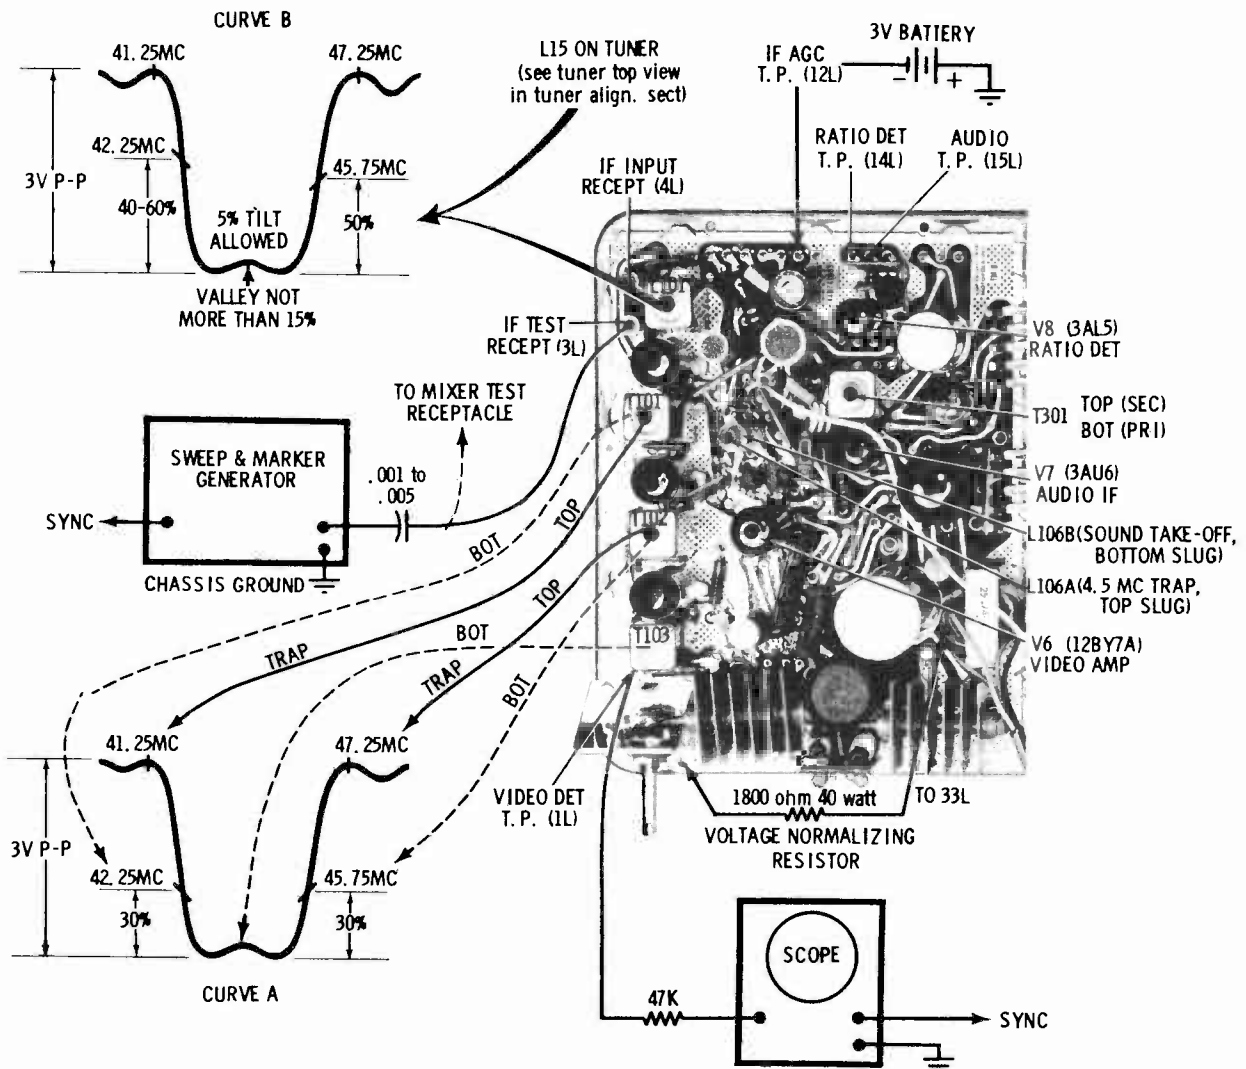

FIGURE 13. IF & SOUND ALIGNMENT DETAIL
2. CONNECT...a 1.8K ohm resistor (40 watts or more) from chassis ground to B++ bus to normalize the voltages: Connect the voltage normalizing resistor between red lead (33L) of the audio output transformer (T-302) and any ground point of the chassis. See Figure 13.
3. APPLY...minus 3 volts to the IF AGC test point by connecting a 3 volt battery between the IF AGC test point (12L) and ground point of the chassis. The positive end of the battery goes to chassis ground. See Figure 13.
10. CONNECT THE OSCILLOSCOPE...with a 47K ohm resistor in series with the input lead, to the VIDEO DETECTOR TEST POINT (1L) (see Figure 13). This location does not change for the entire IF and mixer alignment.
10. RE-CHECK...the settings of the traps as well as the 1st, 2nd and 3rd IF coils to make sure they are correct and match the curve as given in Figure 13.
13. Short out R-9 or compensate by allowing 5% tilt to low side of converter response as in Figure 13.
14. ADJUST...the mixer plate coil (L-15) and the 1st IF grid coil (L-101) for the response and markers shown in Figure 13, curve B.
1. Connect positive lead of VTVM to the RATIO DETECTOR test point (14-L) (See Figure 13). Connect negative meter lead to chassis ground...ground connection may be at the shield lead just to the right of the RATIO DETECTOR test point or any convenient ground point of the chassis.
2. Using an ohmmeter, carefully match two 100K 1/2 watt resistors as closely as possible as to resistance value. Connect these two matched resistors in series from test point (14-L) to chassis ground (see Figure 13).